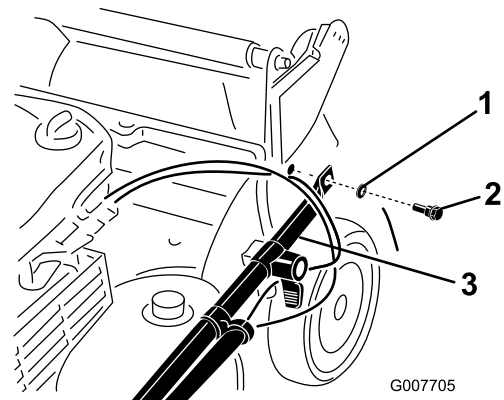

Figure 3
2. Attach the handle ends to the machine housing with 2 washers and 2 handle bolts (Figure 3), **but do not tighten the handle bolts.**